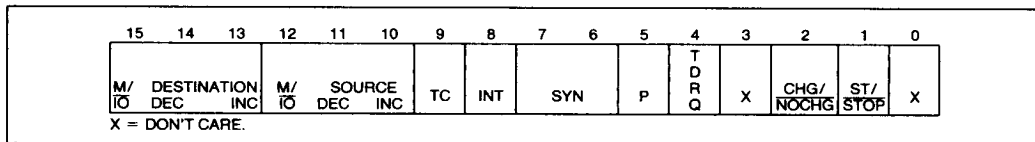

Figure 17. DMA Control Register
(TC) specifies the number of DMA transfers to be performed. Up to 64K byte transfers can be performed with automatic termination. The Control Word defines the channel's operation (see Figure 17). All registers may be modified or altered during any DMA activity. Any changes made to these registers will be reflected immediately in DMA operation.